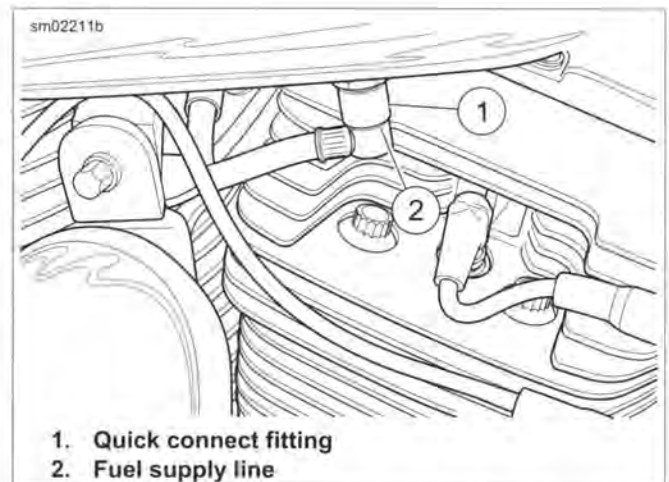

Figure 4-6. Fuel Supply Line Fitting
2. See Figure 4-6. Pull up on chrome sleeve of quick-connect fitting (1). Pull down on fuel supply line (2) to disconnect.